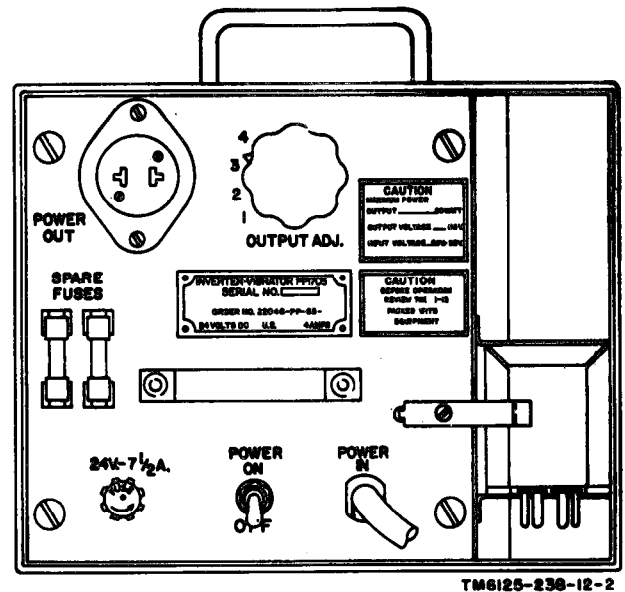

Figure 3. Inverter, Vibrator PP-1703/U, controls.
13. Inverter, Vibrator PP-1703/U, Controls (fig. 3)
14. Preliminary Control Settings (fig. 3)